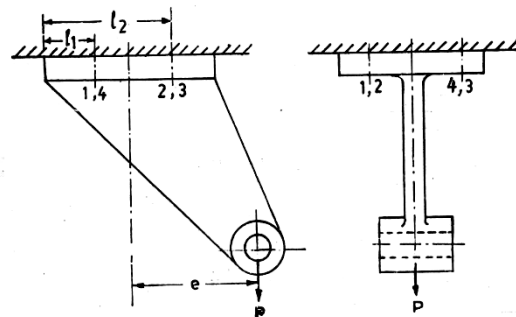

Fig. 2, Q5(b) OR
- (b)** Fig.2 shows two views of a cast iron bracket fixed to the steel structure by means of 4 bolts. It carries a vertical load of 35 KN at a distance of 400mm from the center of gravity of the bolts as shown. Calculate the diameter of the bolts if allowable tensile stress is 60 MPa for the bolt material. The distances are $l_1=75$ mm and $l_2=200$ mm. **07**